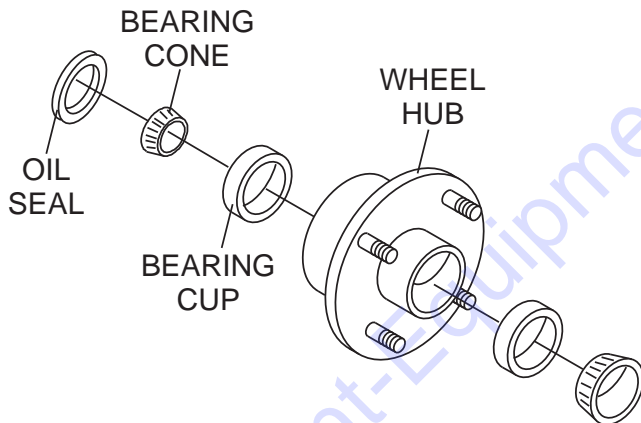

Figure 32. Wheel Hub and Bearings
1. After every 3 months of operation, remove the hub dust cap and inspect the wheel bearings (Figure 32). Once a year, or when required, disassemble the wheel hubs remove the old grease and repack the bearings forcing grease between rollers, cone and cage with a good grade of high speed wheel bearing grease (never use grease heavier than 265 A.S.T.M. penetration (“No. 2.”).
2. Fill the wheel hub (Figure 32) with grease to the inside diameter of the outer races and also fill the hub grease cap. Reassemble the hub and mount the wheel. Then tighten the adjusting nut, at the same time turn the wheel in both directions, until there is a slight bind to be sure all the bearing surfaces are in contact.